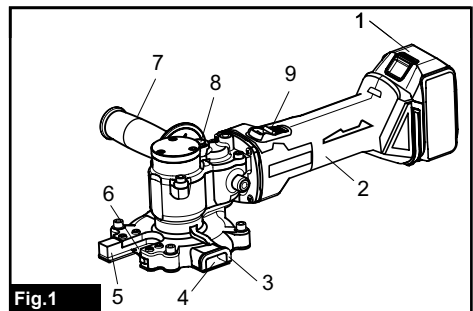

Fig.1
- Fig.1: 1. Battery 2. Motor 3. Dust Bag Holder